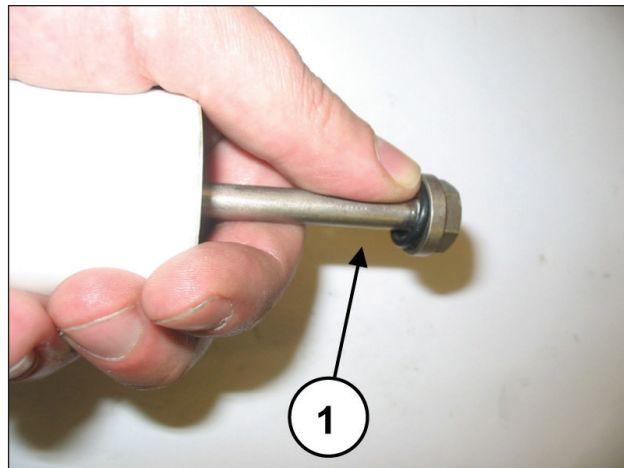

Fig. 46
At every disassembly, all O-rings on the piston unit must be replaced (Fig. 46, pos. ①).